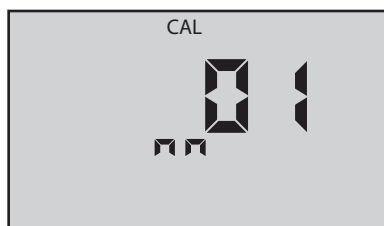

Figure 14
7. Press $\left(\frac{\text{CAL}}{\text{MCLR}} \right)$ to accept the change (new month), (see Figure 14, pg. 40).